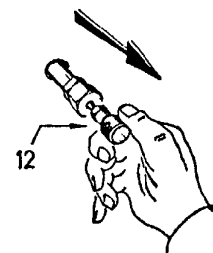
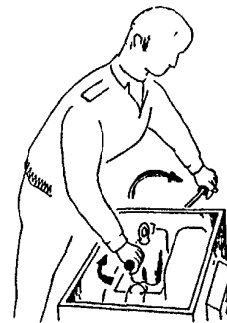
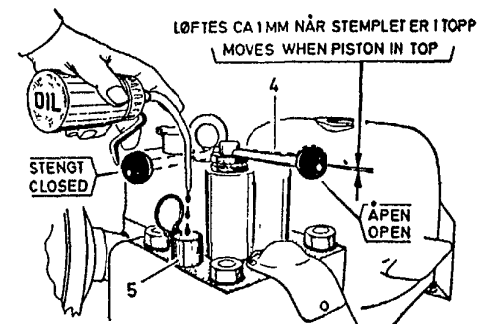

Fig. 4
Fig. 5
Fig. 6
Pull out the excess fuel knob (fig. 4, pos. 12) and fill cold starting oil cup (fig. 6, pos. 5) with lubricating oil.
3. Open decompressor. Handle (4) pointing forward.
4. Stand on starboard side of engine (fig. 5) with your right hand on decompressor handle and operate starting handle with your left hand.
4. Fill oil cup (fig. 6, pos. 5) on cylinder head *two times with lubricating oil* to preserve cylinder and ease next starting.
Turn engine by hand a few times and leave piston in top dead center (TDC noticed by piston touching the decompressor valve fig. 6).